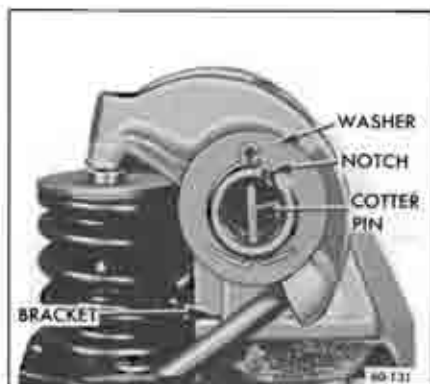

Figure 60-131—Rocker Arm Shaft End View
8. Check notch on one end of rocker arm shaft. Be sure it is positioned as shown in Figure 60-131.